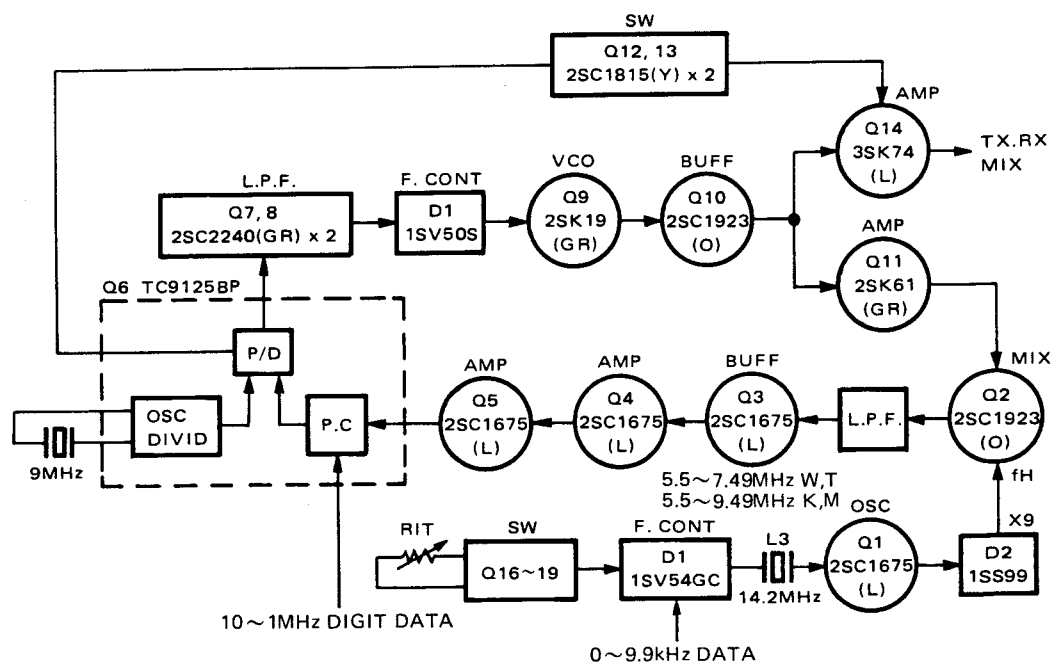

Fig. 3 PLL unit Block diagram
Fig. 3 shows the basic configuration of the PLL circuit. The signal generated by the VCO (Q9: 2SK19 (GR)), after passing through the buffer amplifiers Q10: 2SC1923(O) and Q11: 2SK61(GR), is mixed with the HET (heterodyne) signal by Q12: 2SC1923(O) where it is converted to a 5.5 to 9.49 MHz (K,M), 7.49 MHz (W,T) signal. This signal is amplified by Q3 – Q5: 2SC1675(L) and applied to Q6: TC9125BP. IC Q6 functions as a phase comparator, frequency-divider, and program counter. It compares the phase of the data (1 Mz, 100 kHz, 10 kHz) from the control unit with the phase of the 10 kHz reference signal obtained by dividing down the 9 MHz crystal oscillator. Any error from the reference is output from Q6 as a correction voltage for the VCO. This voltage, having passed the active low-pass filters Q7 and Q8, is applied to the VCO varactor diode to control the VCO Q9.